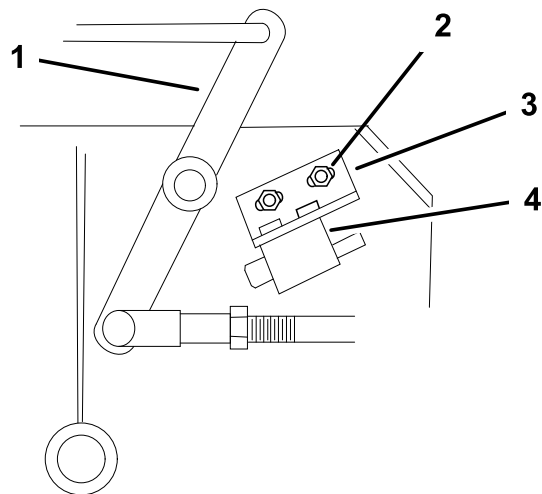

Figure 58
4. If needed, adjust the blade safety switch by loosening the bolts holding the switch bracket (Figure 58).
Note: Make sure the bellcrank **does not** touch the switch body or damage to the switch could occur (Figure 58).